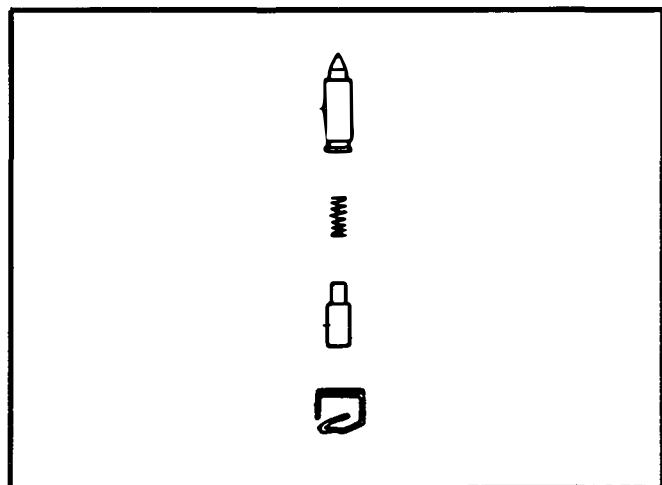

Figure 20.
1. Assemble the needle valve, and clip. See Figure 20.